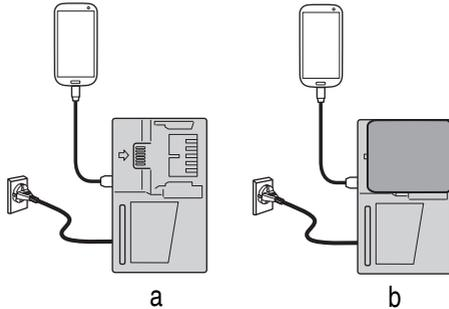

Fig. 13
- Charging a USB device from a electrical outlet (**Fig. 13-a**).
- Charging a USB device and battery from a electrical outlet. (**Fig. 13-b**)